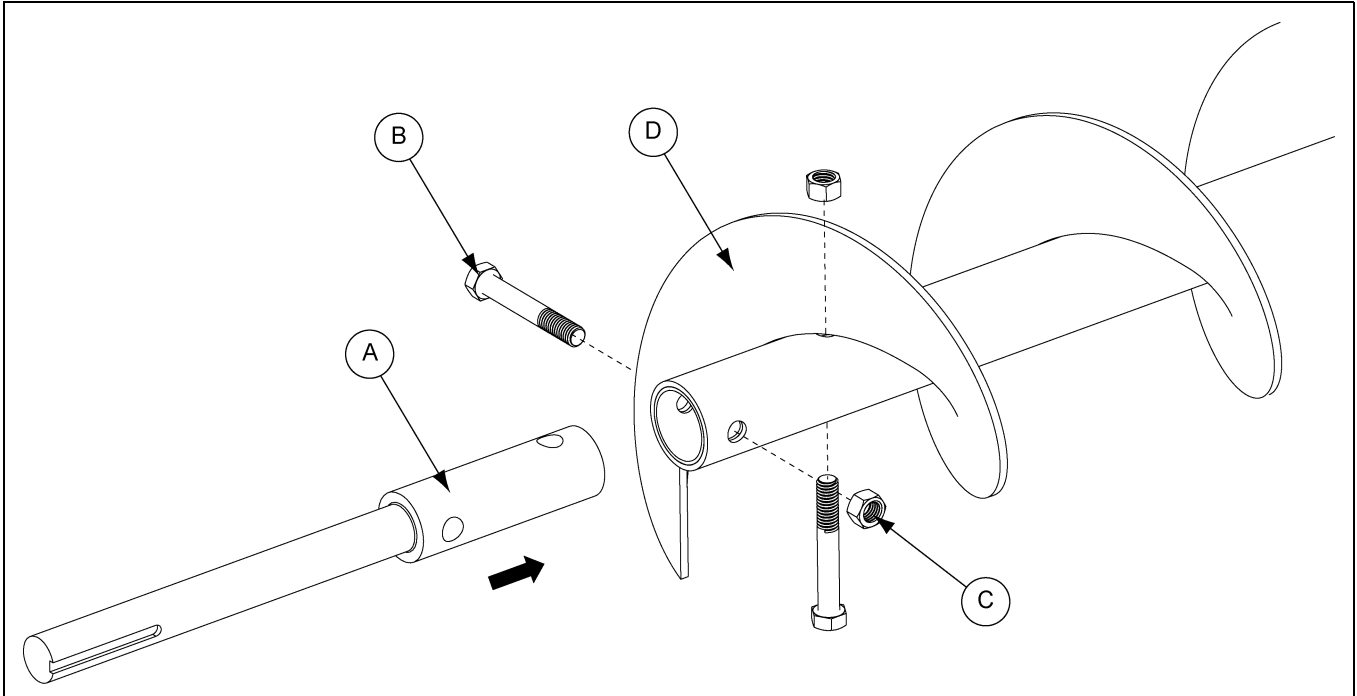

Figure 4AA
Step 3: Assemble first auger section. (See Figure 4AA.)